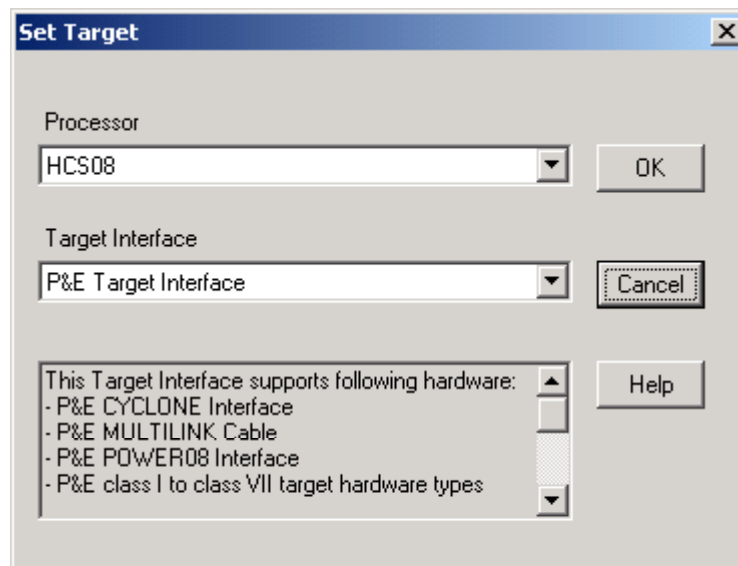

Figure 12 Set Target Window
2. From the main window, setup the target by selecting the “Component” menu, then click on “Set Target”. The “Set Target” window appears as shown in Figure 12.